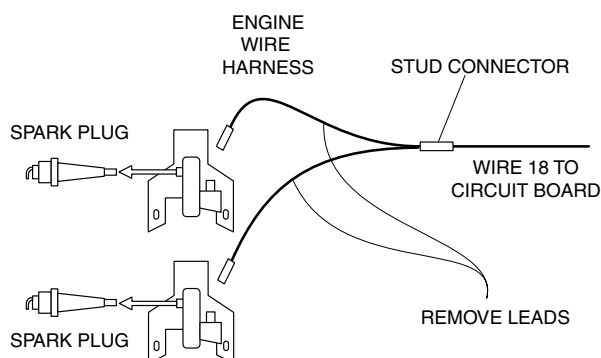

Figure 207. Engine Ground Harness
11. Disconnect the engine wire harness from the ignition magnetos (Figure 207).